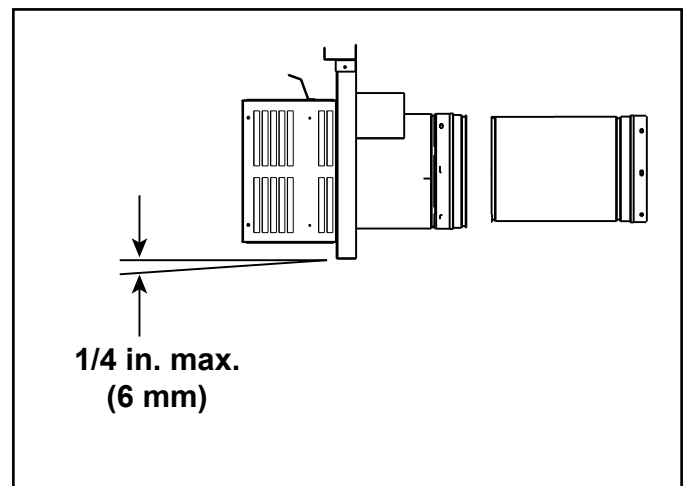

Figure 4.7
- Horizontal termination cap should have a 1/4 inch downward slant to allow any moisture in cap to be released. See Figure 4.7.